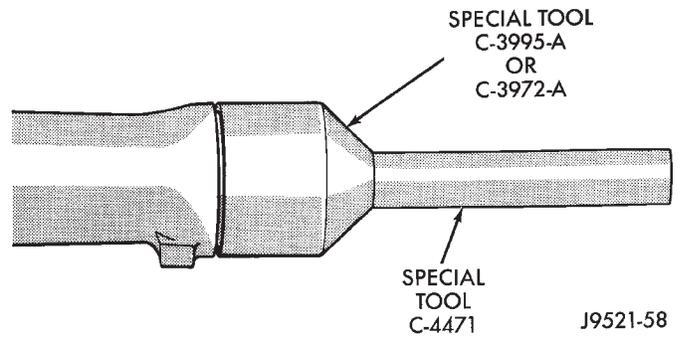

Fig. 62 Overdrive Housing Seal Installation
(1) Align bushing oil hole with oil slot in overdrive housing.
(2) Tap bushing into place with Installer 6951 and Handle C-4171.
(3) Install new oil seal in housing using Seal Installer C-3995-A (Fig. 62).